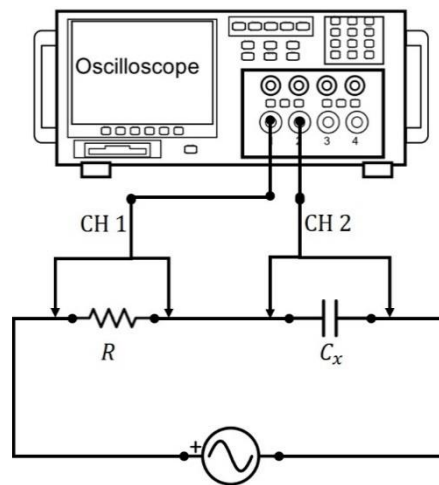

Figure 7.2
- 1.1 Connect the function generator at frequency 1.5 kHz and a series of a resistor ( $R$ ) and a capacitor ( $C_x$ ) create an AC circuit as seen in Figures 7.2.